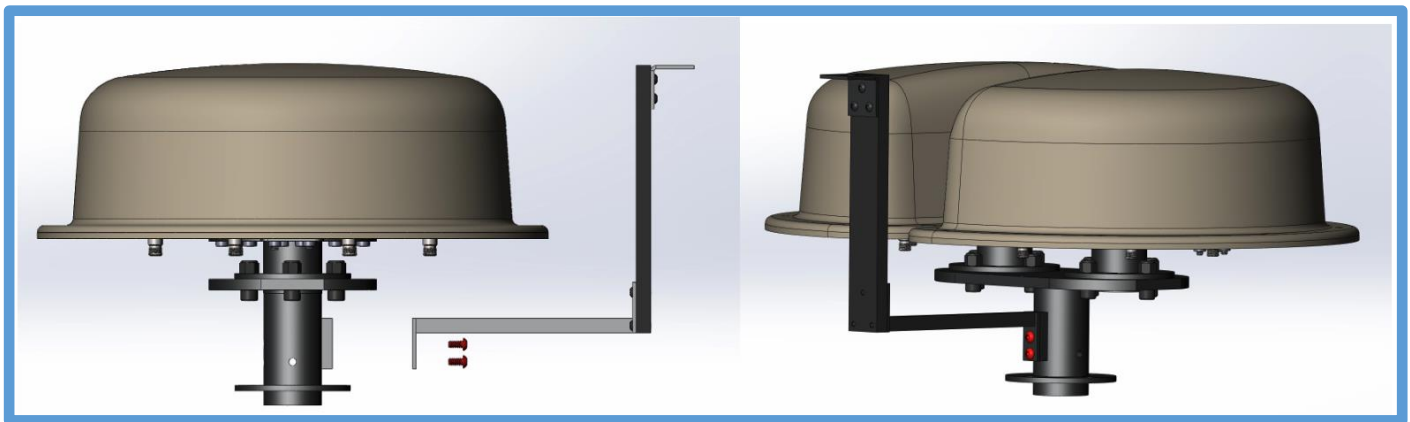

Figure 9. SkyView-DIVR MKII OMNI Antenna Arm Assembly Guide
Each system includes a hardware antenna bag like that depicted in Figure 9 to secure one (1) OMNI-directional antenna arm. The following HW components are included:
Referencing Figure 9, attach the assembled Omni-antenna arm to the side of the combining mount plate between sectors 1 and 8 using two (2) ¼-20 Phillips pan head screws with the included screwdriver.